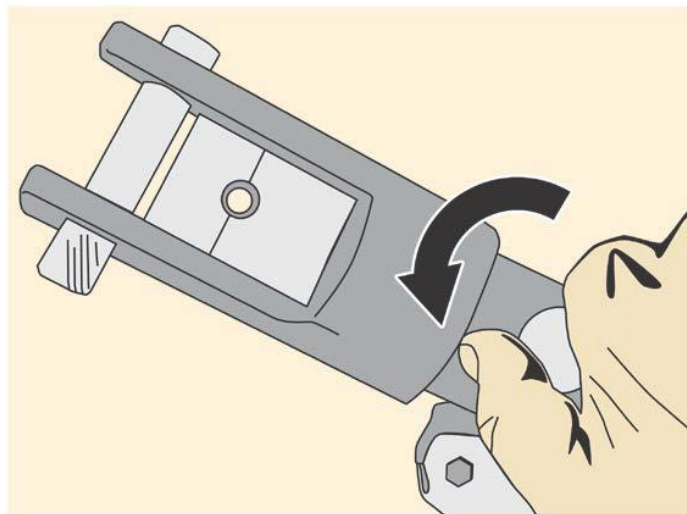

Fig 7
- c) Turn the knob on the Cable Crimper counterclockwise to open the jaws (Fig 7). Position the jaws around the fitting, 1/8" from where the cable enters the fitting.